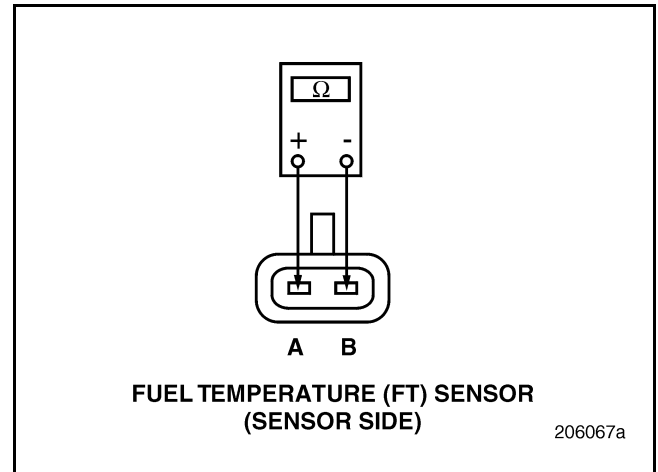

Figure 44
3. Measure the resistance across the pins of the FT Sensor with the fuel temperature between 32° and 194°F (0° and 90°C) (see Figure 44).